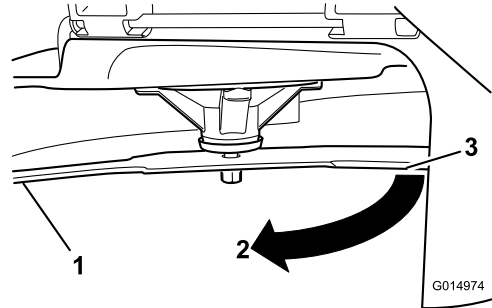

Figure 62
4. Rotate the same blade 180 degrees so that the opposing cutting edge is now in the same position (Figure 62).